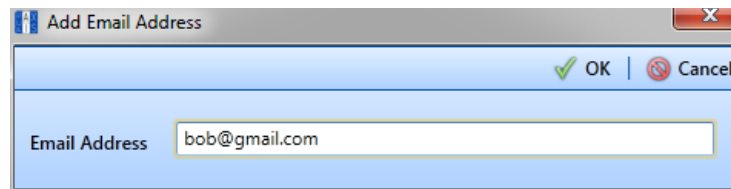

Figure 11-5. Add Email Address
- 3 Click  **Add Email** to open the *Add Email Address* dialog box. Type the user's email address in the **Email Address** field and then click  **OK**. Repeat this step as needed to add another email address (Figure 11-5).